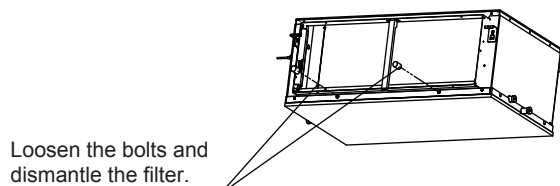

Figure 14.1
- Dismantle the air filter(Refer to Figure 14.1).